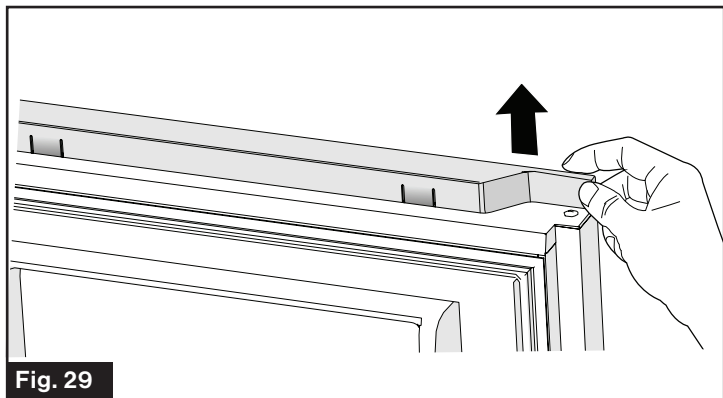

Fig. 29
1. Hold the right of the Top Cover and lift upward to remove. (Fig. 29)